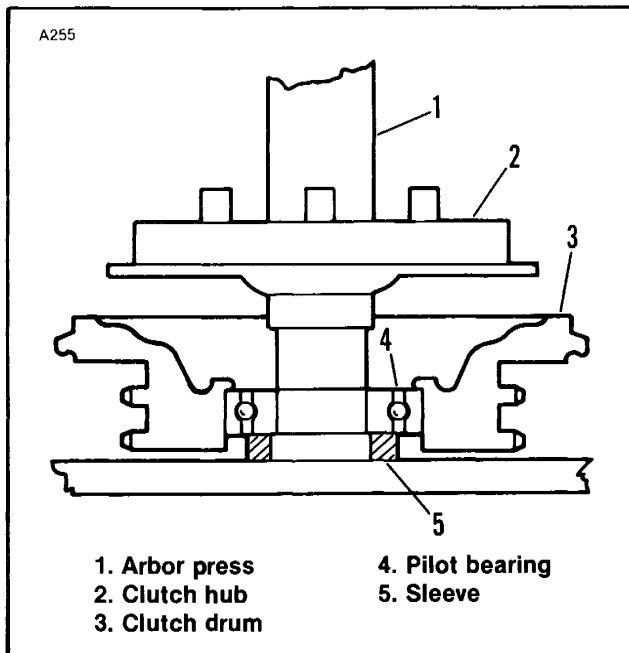

Figure 6-26. Clutch Hub into Pilot Bearing
1. Press pilot bearing (10) into clutch drum counter-bore.
2. Use lock ring pliers and install internal circlip (9) into groove in drum next to pilot bearing.
- See Figure 6-26. Place drum (3) on arbor press with inner race supported by a sleeve (5). Press hub into bearing against hub shoulder.